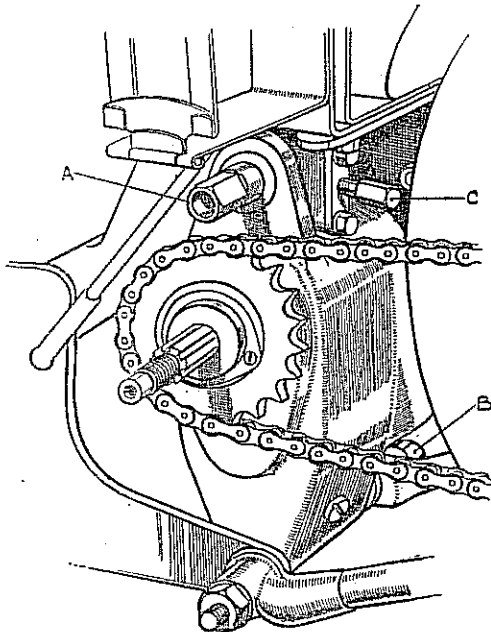

Fig. 35.
61. FITTING OF GEARBOX TO THE FRAME—(Fig. 35.)